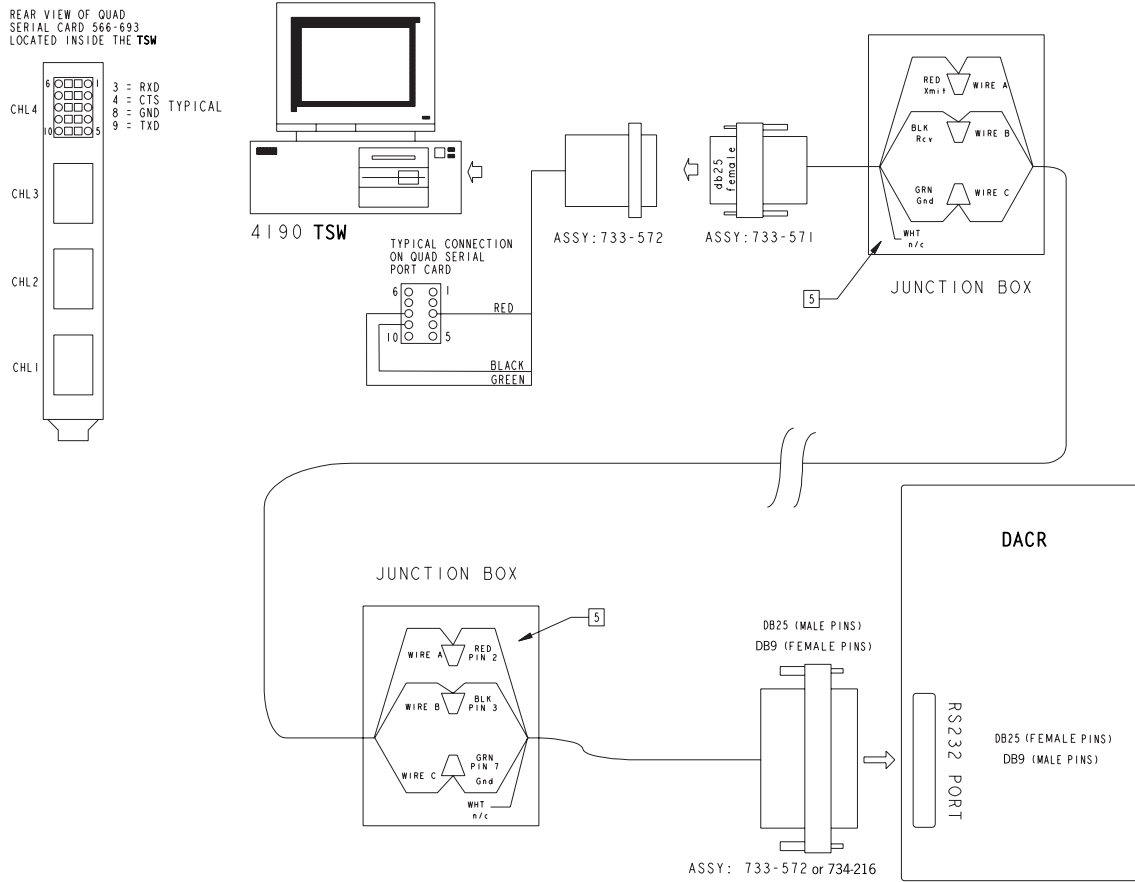

Figure 6-2 Connecting DACR to the TrueSite Workstation without Adapter Cable
- If you are connecting the DACR to the TrueSite Workstation without an adapter cable (using DB25 connector), refer to the diagram in Figure 6-2 for detail.